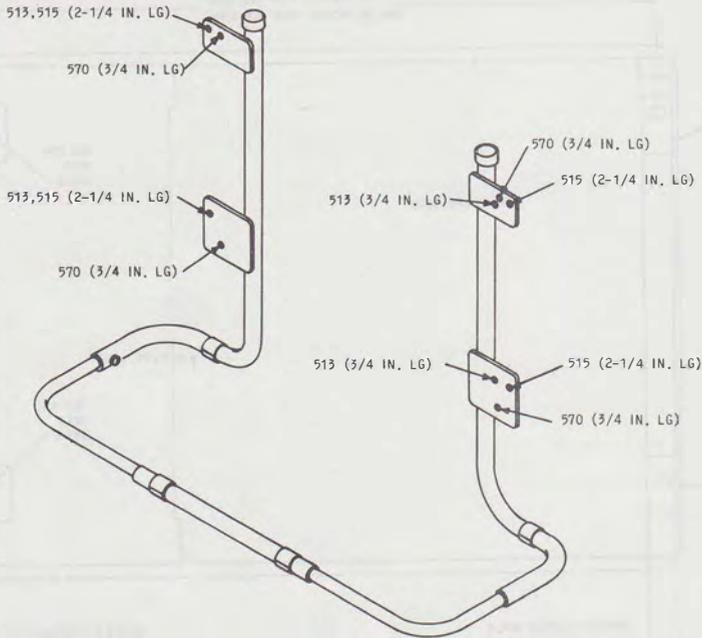

Fig. 11—77C Apparatus Mounting
3.08 The 77C apparatus mounting (Fig. 11) is similar to the 77B except the mounting plates have been enlarged to provide extra holes for mounting 570-type KSUs with one-piece backboards. The new holes will be circled in yellow. The 77C
apparatus mounting will also accept the 513- and 515-type KSUs or 570-type with 2-piece backboard. Fig. 11 shows the holes used for each KSU and the length of 1/4-20 screws required.